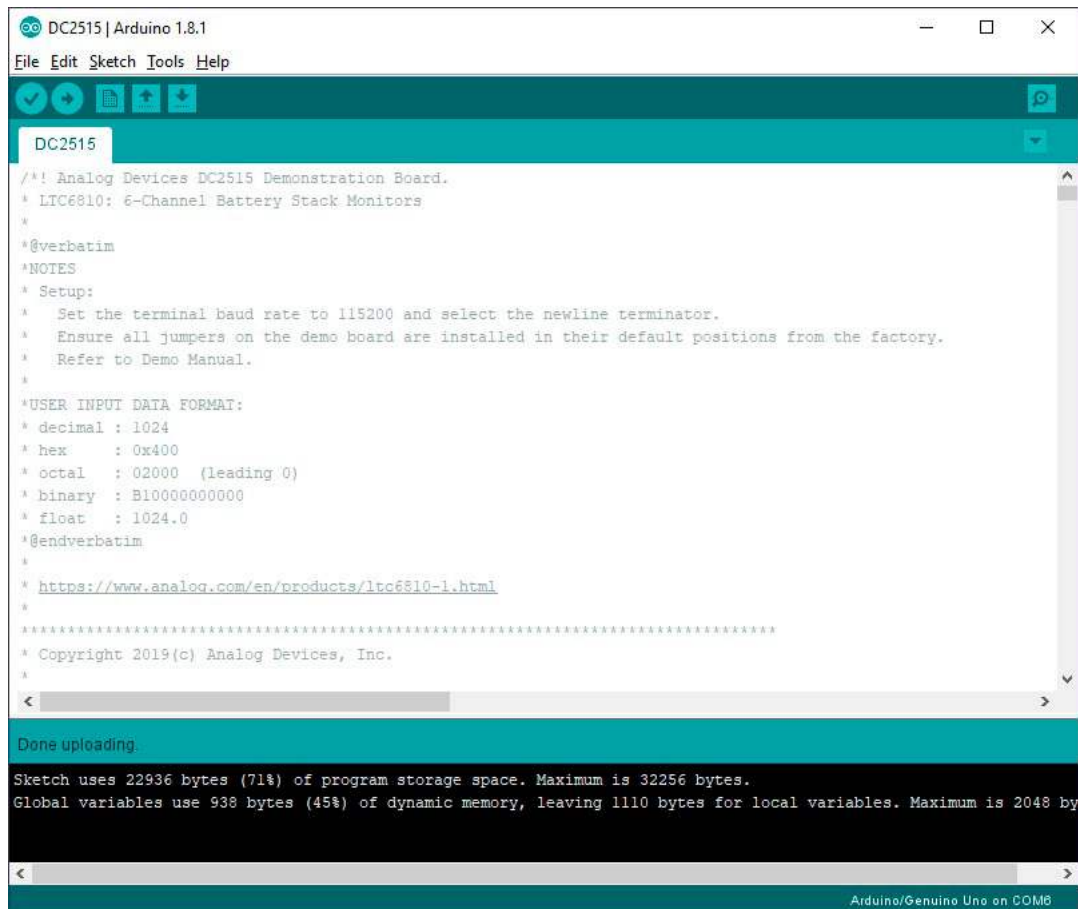

Figure 9. Uploading DC2515 Sketch
- Upload the **DC2515** sketch onto the DC2026 by clicking on the **Upload** button on the top left corner. When this process is completed there will be a **Done Uploading** message on the bottom left corner (see Figure 9).